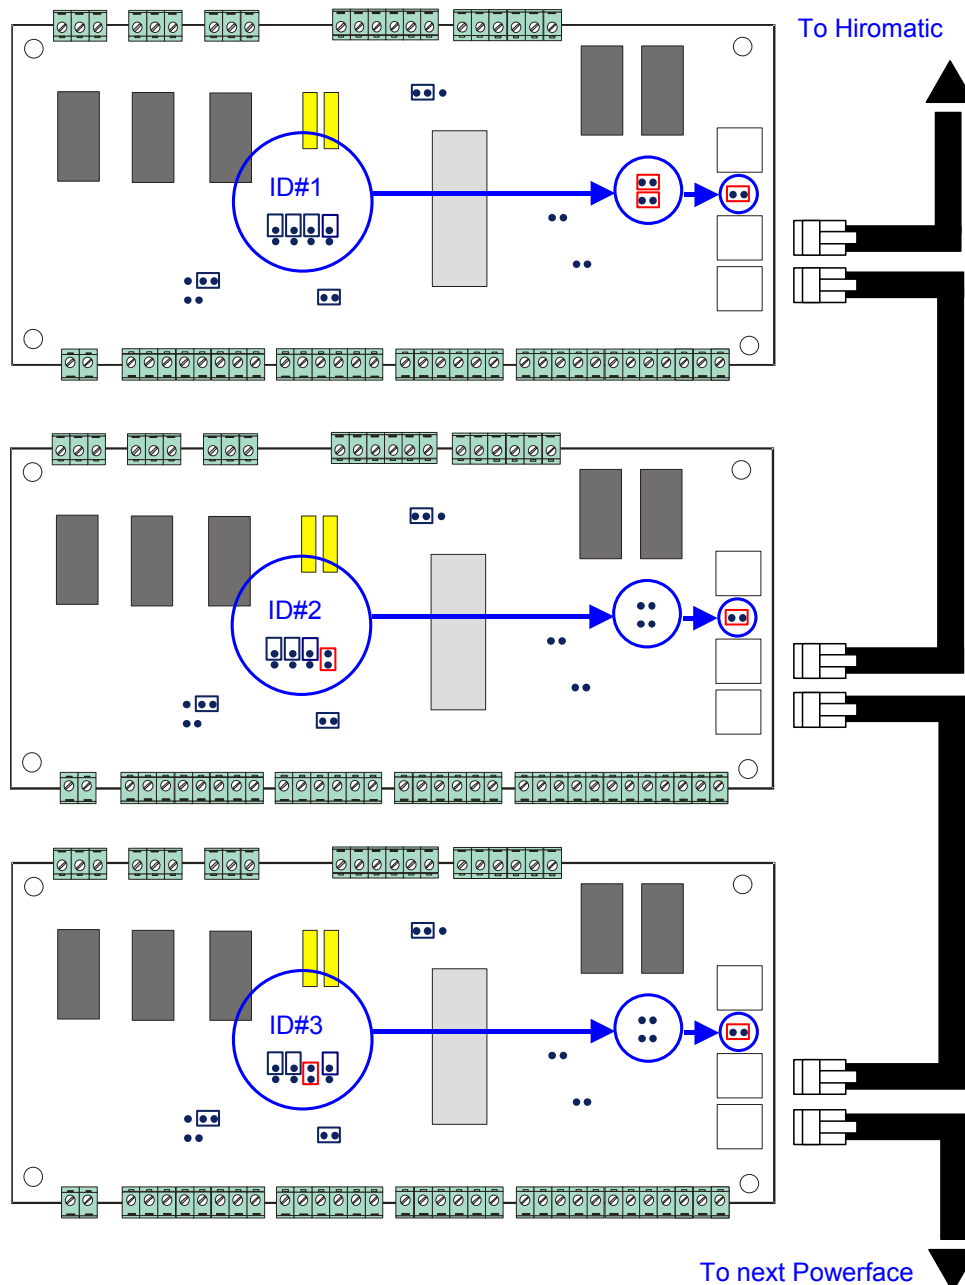

Figure 2: The maximum of units allowed to build a system is 6 (six) and remove the power from the units before to do any things
- realize the HIROBUS connection using the HIROBUS 8 poles screened cable (see the figure 2)